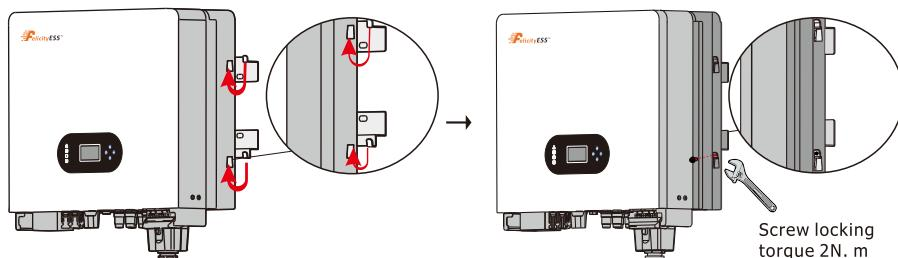

Figure 3.4-2 Installing an Inverter
Step 2. Lift the inverter to fix it on the installation bracket. We can prevent theft by locking. See Figure 3.4-2.